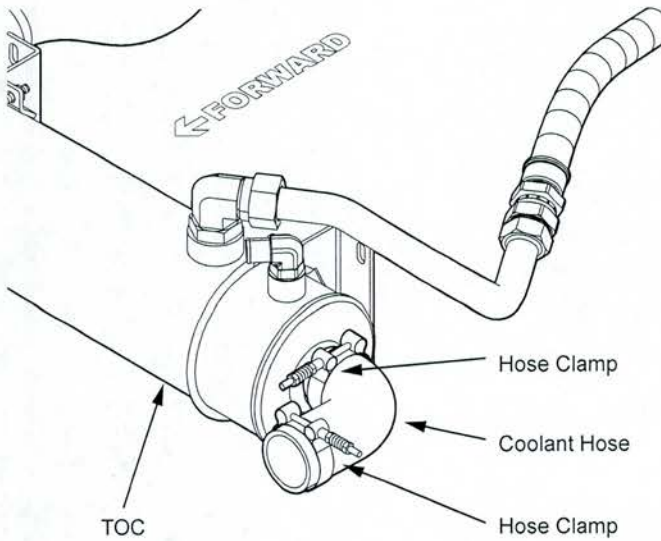

**Figure 3**
5. Using a 15-gallon (57-liter) drain pan, drain the cooling system by opening the drain valve on the radiator and the drain valve on the bottom of the engine oil cooler housing. Remove the TOC drain plug to completely drain the TOC (see Figure 3).
8. Position a 5-gallon (19-liter) drain pan beneath the transmission fluid pipe fittings. Disconnect the 2 transmission fluid pipes from the fittings and remove the fittings from the TOC. Remove and discard the O-rings from the fittings and place the fittings aside for reinstallation. Discard the captured transmission fluid (see Figure 3).